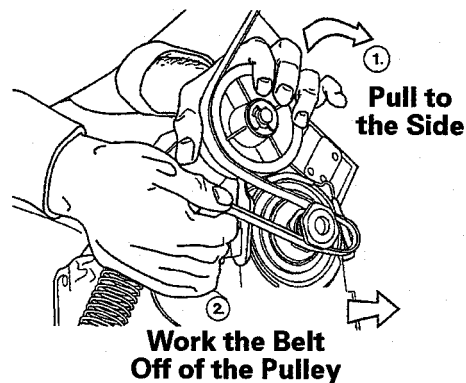

Figure 2-37
5. Grasp the idler pulley in left hand, pull idler upward and to the left. **Note: There is a built-in stop to prevent overstressing of the idler arm spring.** Slip belt off the motor pulley, *see Figure 2-37*.